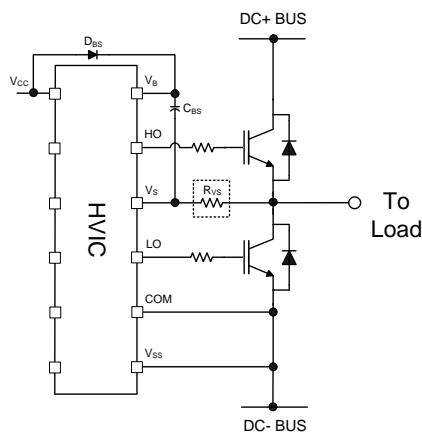

Figure 32: V_S resistor
- **Routing and Placement:** Power stage PCB parasitic elements can contribute to large negative voltage transients at the switch node; it is recommended to limit the phase voltage negative transients. In order to avoid such conditions, it is recommended to 1) minimize the high-side emitter to low-side collector distance, and 2) minimize the low-side emitter to negative bus rail stray inductance. However, where negative V_S spikes remain excessive, further steps may be taken to reduce the spike. This includes placing a resistor (5 Ω or less) between the V_S pin and the switch node (see Figure 32), and in some cases using a clamping diode between COM and V_S (see Figure 33). See DT04-4 at www.infineon.com for more detailed information.